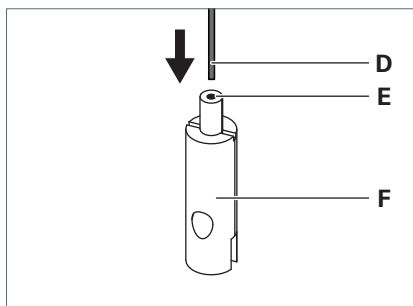

Fig. 15: Mounting the wire rope holder.
- Guide the wire rope **D** through the guide bushing **E** of the wire rope holder **F**, see Fig. 15.